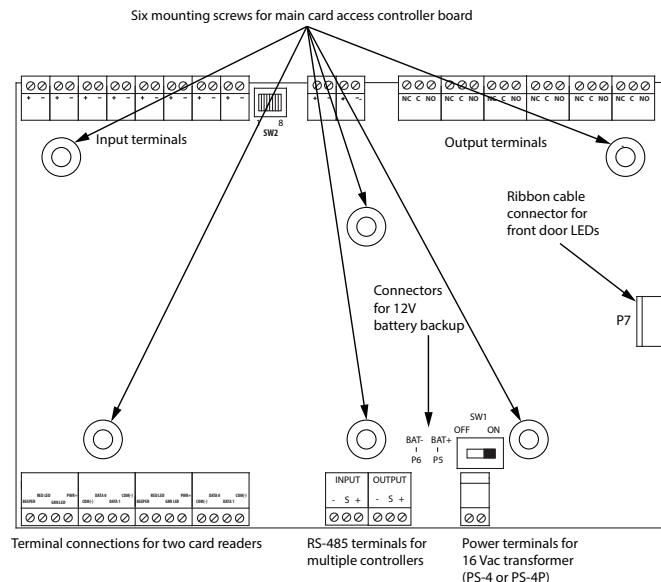

Figure 1 Controller board mounting holes
2. Turn off the current main controller board (see SW1 in Figure 1).